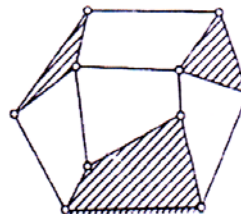

Figure.1
**b) For Kinematic linkage shown in Figure 1, calculate the following : [9]**